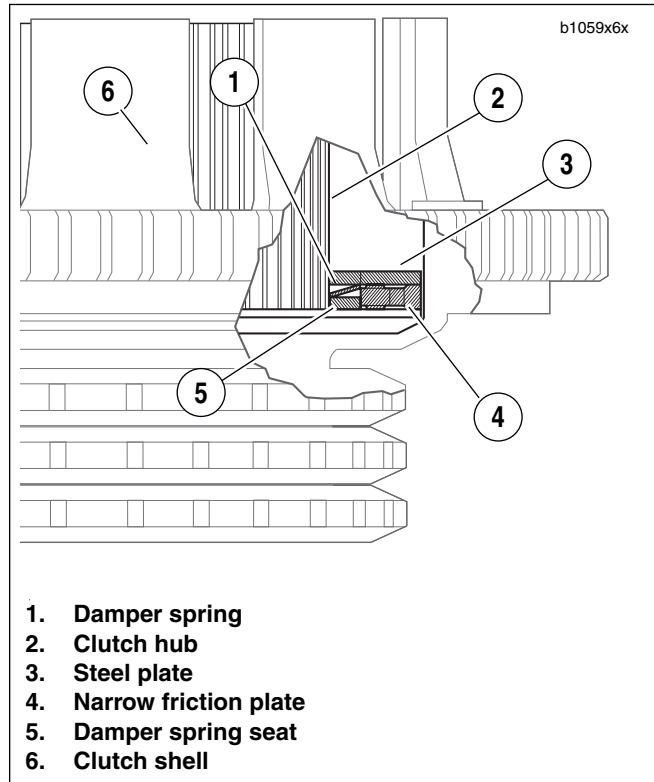

Figure 6-17. Clutch Pack Stack-Up (Cut-Away View)
3. See Figure 6-17. Install damper spring seat (5) on clutch hub so that it seats inboard of narrow friction plate (4).
4. Install damper spring (1) on clutch hub with the concave side up (facing opposite damper spring seat).